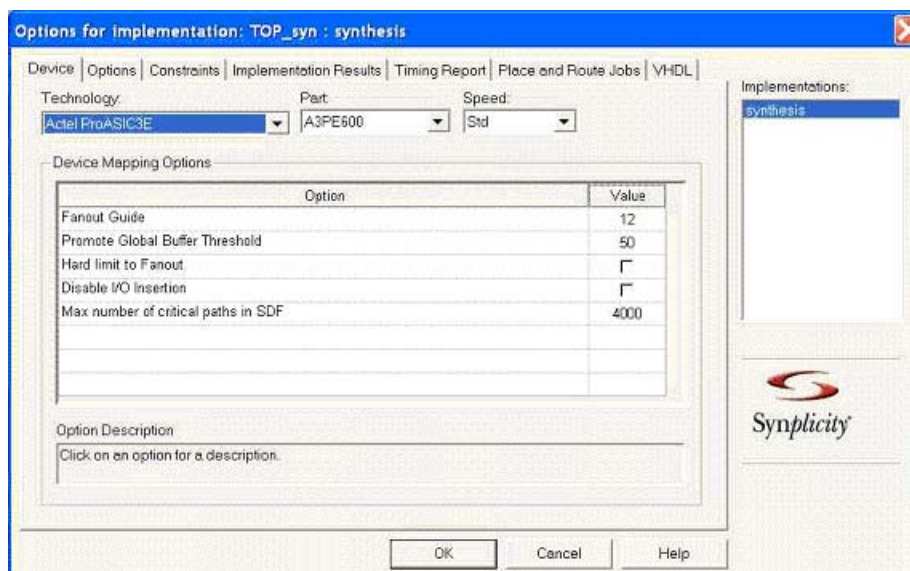
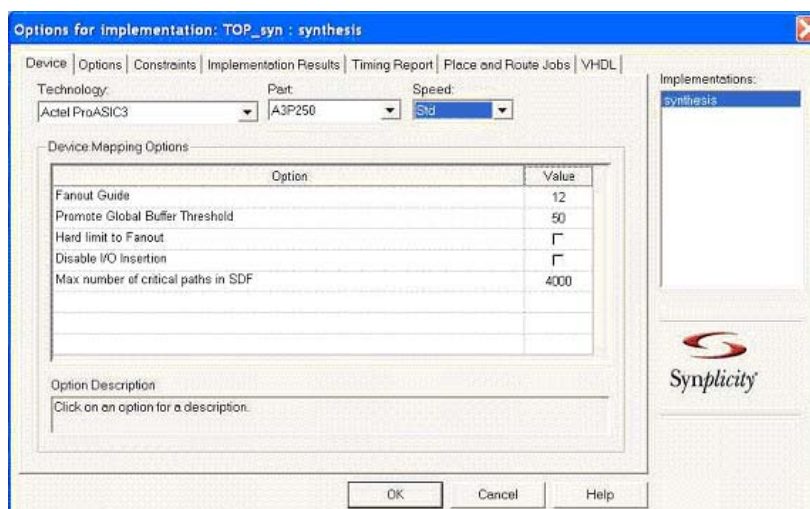

Figure 7-26 • Options for Implementation Dialog Box-A3PE600
Figure 7-27 • Options for Implementation Dialog Box-A3P250
- From the **Project** menu, select **Implementation Options**. This displays the Options for the Implementation dialog box, as shown in Figure 7-26 for A3PE600 and Figure 7-27 for A3P250.